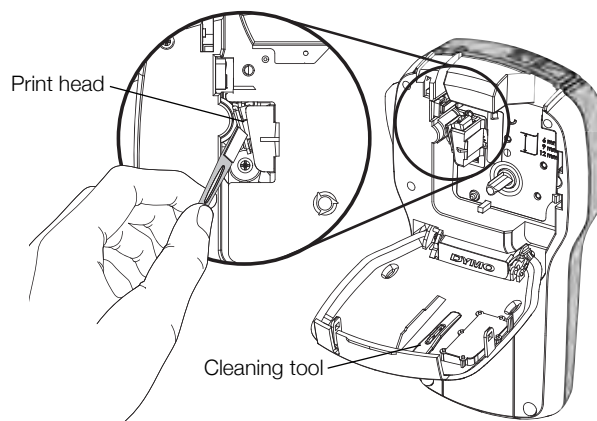

Figure 8
- 2 Remove the cleaning tool from inside the label compartment cover. See Figure 8.
- 3 Gently wipe the padded side of the tool across the print head. See Figure 8.